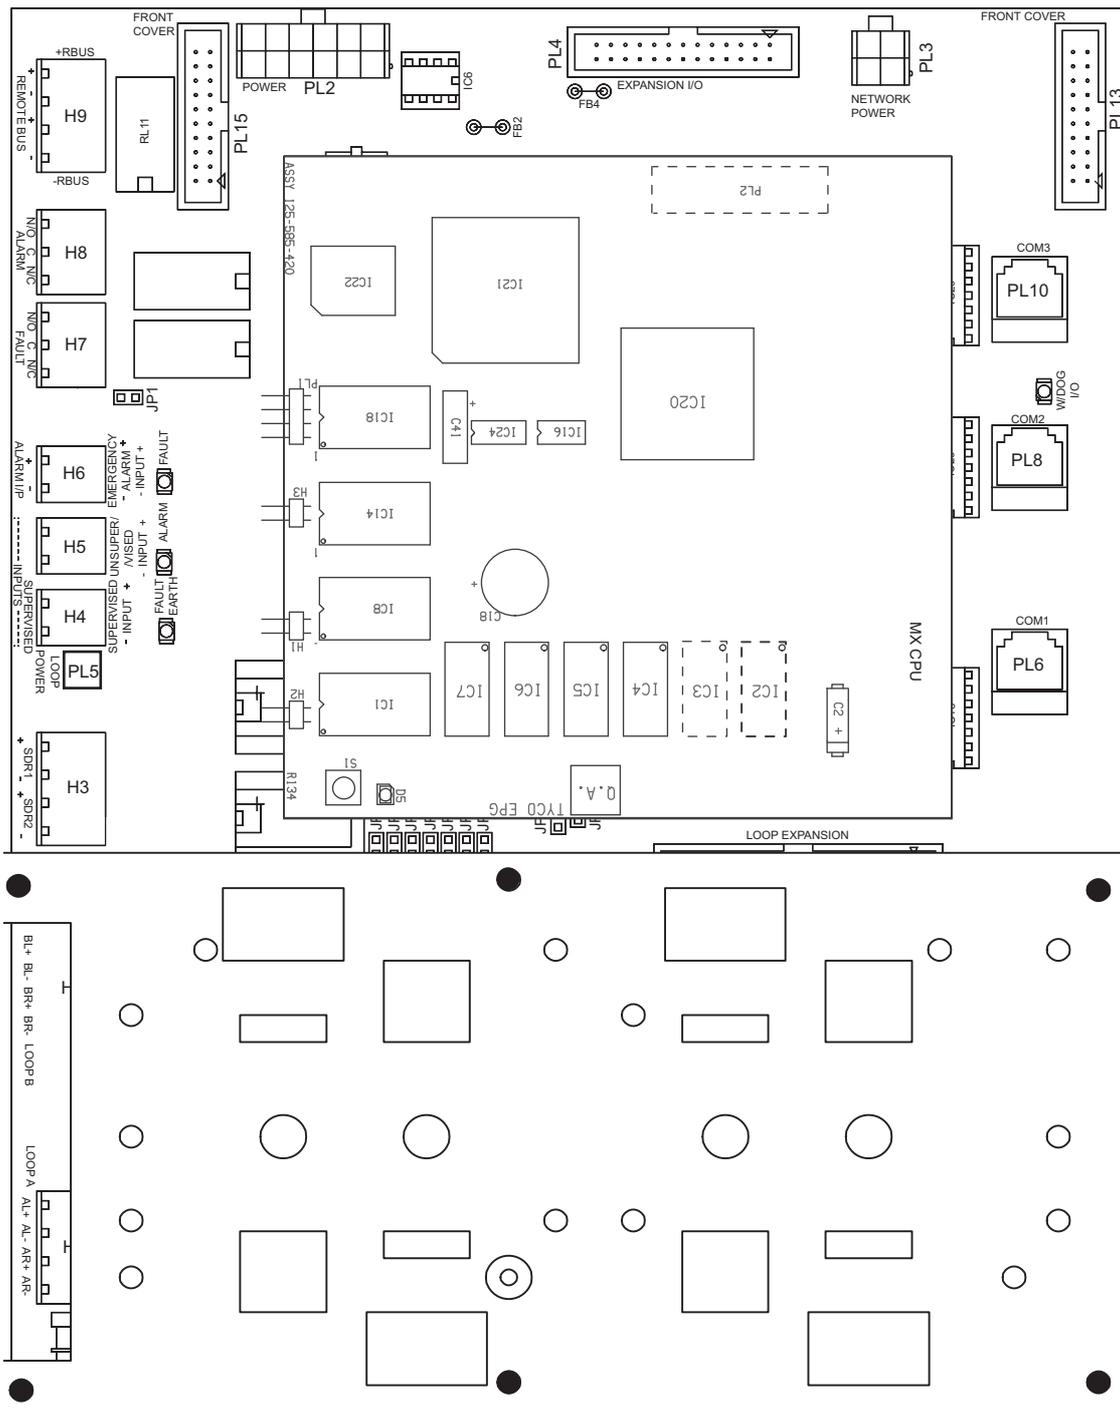

Fig. 23: Ancillary Mounting Plate Hole Locations on FIM (in black - re-use screw holes)
- 1 Remove the FIM mounting screws at the locations shown in Fig. 23 on page 32.